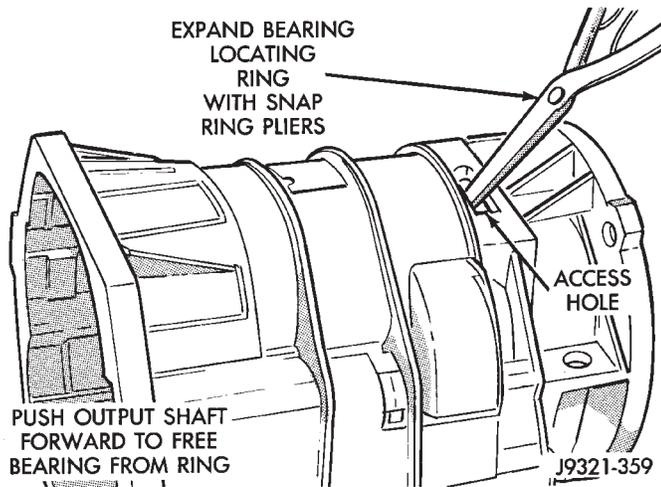

Fig. 219 Releasing Bearing From Locating Ring
(5) Expand output shaft bearing snap ring with expanding-type snap ring pliers. Then push output shaft forward to release shaft bearing from locating ring (Fig. 219).